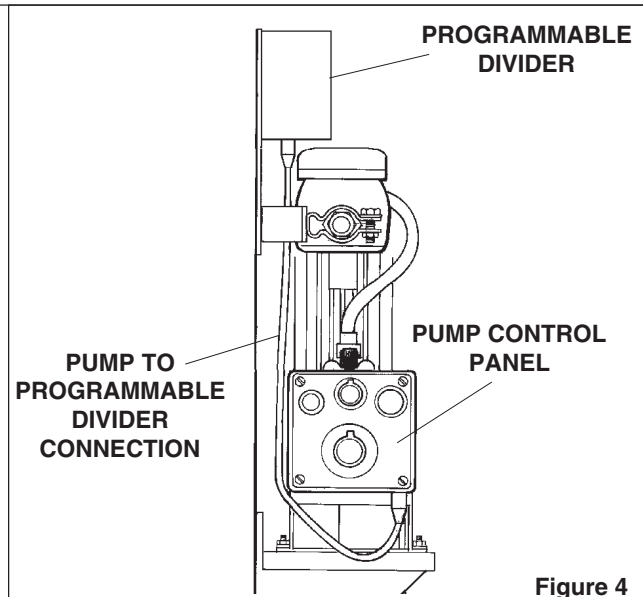

Figure 4
4. Plug the cable connector from the programmable divider into the receptacle located under the control panel of the pump, *refer to Figure 4*.